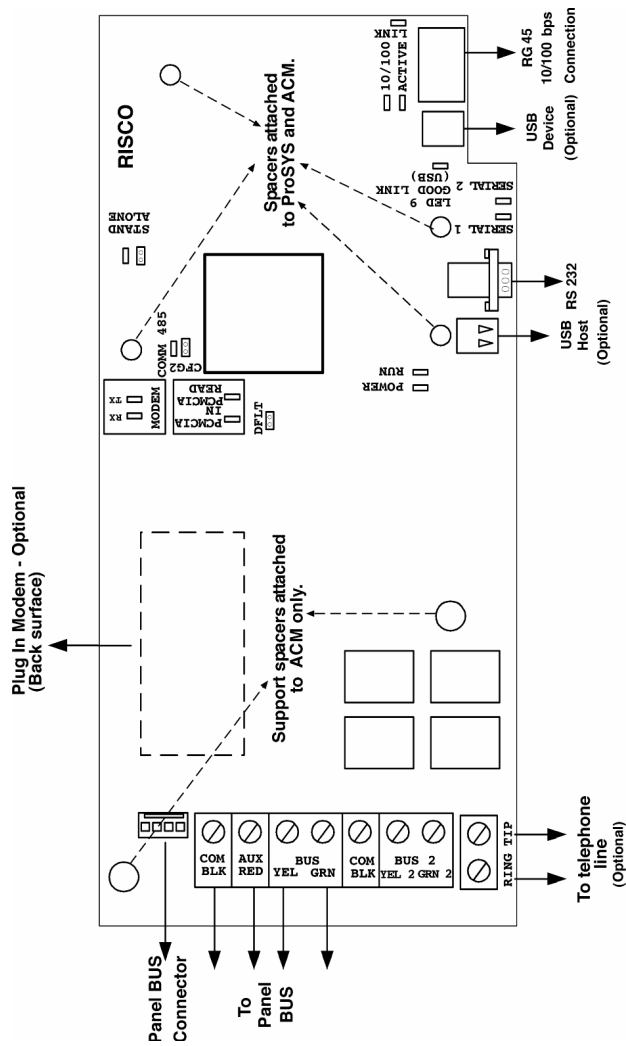

Figure 2: ACM Layout with Spacers
4. Attach the 4 plastic spacers using the provided plastic screws to the ProSYS main holes shown in Figure 2.
5. Connect 2 plastic support spacers to the ACM board (using plastic screws) as shown in Figure 2.
8. Connect the ACM to the Ethernet by plugging an appropriate Ethernet cable plug into the RG-45 connector on the ACM (see Figure 2).